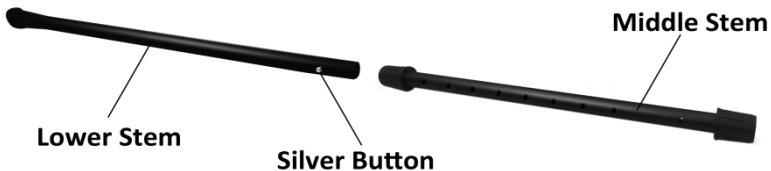

Fig.3
2. Loosen the lock nut on the middle stem, press the silver button on the lower stem, insert into the middle stem (multiple holes) until the silver button locates and clicks into the stem hole (See Fig.3).